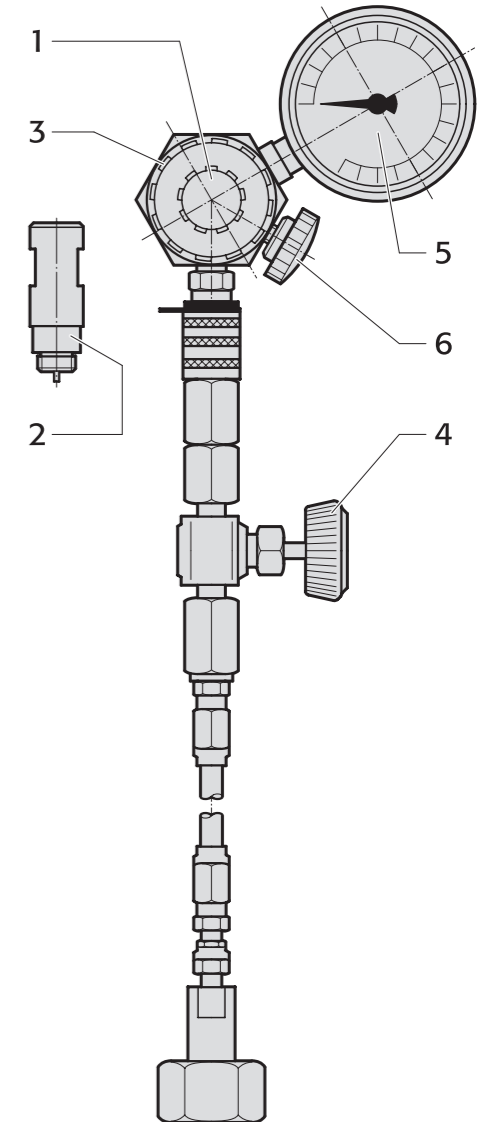

Figure 16: Filling and control fitting with filling hose
9.1 Filling the cam unit and accumulator with nitrogen gas (Fig. 16)